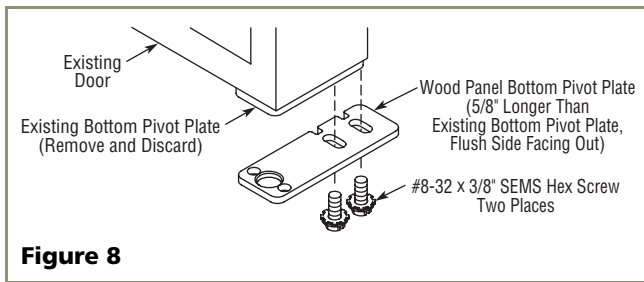

Figure 8
4. Remove the existing bottom pivot plate and replace with the Full Overlay pivot plate (see **Figure 8**).